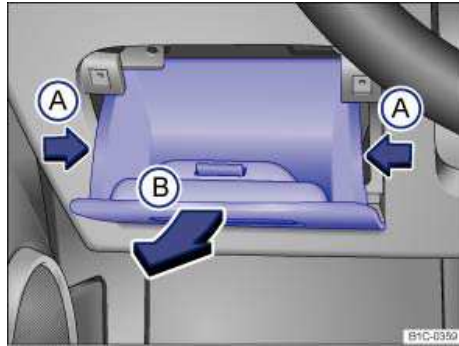

Fig. 169 On the driver side in the instrument panel: Storage compartment in front of the fuse box.
- Open the storage compartment ⇒ fig. 169, ⇒ *Storage areas*.
- Press the sides of the storage compartment in slightly ⇒ fig. 169 \(\(A\) arrows\) while pulling back firmly ((B) arrow).
- To **install**, guide the cover from the bottom into the instrument panel and push in the direction opposite to the arrow (B) until you hear the hinges click into place, then push forward until the cover latches firmly.